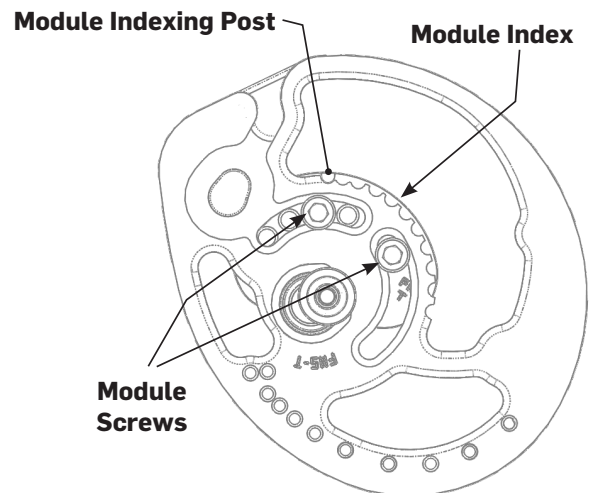

Figure 2.2: Module screws
1. Use a 9/64 inch hex wrench to remove all module screws completely. Reference figure 2.2